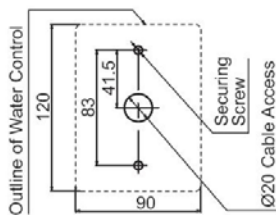

Fig. 1
2. Drill 3 holes in the wall (Fig.1), one for the cable and two for the securing screws. Fit wall plugs if needed and ensure controller is level.
2. Remove the protective cap from the 3 pin connector marked EZ Connect located in the wiring harness of the Primary Unit (Fig.1).
4. Check gas type dip switch no.1 of SW2 is in the correct position for the type of gas (Nat. or LPG)\* you are using. See Fig. 1